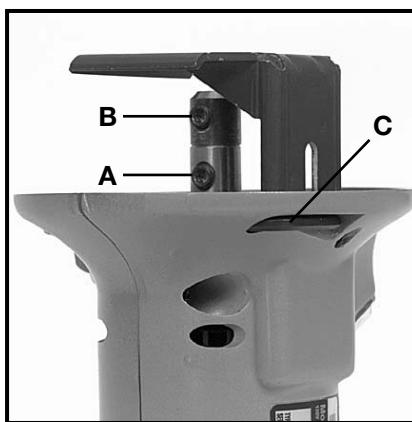

Fig. 2
The Model 7499 Cutout Tool is designed to accept cutout bits with either .115", 1/8" or 1/4" diameter shanks. Bits with 1/4" shanks are inserted directly into the spindle shaft of the Cutout Tool and are retained by screw (A) Fig. 2. A special chuck (#43224, supplied with the 7499), is used to install bits with either .115" or 1/8" shanks. The special chuck is inserted directly into the spindle shaft of the Cutout Tool and is retained by screw (A) Fig. 2. The bit shank is inserted into the special chuck and is retained by screw (B) Fig. 2.
A hex wrench (C) Fig. 2, is stored in the Cutout Tool housing. This wrench is used to tighten (and loosen), the bit retaining screws. Use your thumbnail to rotate the hex wrench clockwise; away from the tool housing. Grasp the wrench and pull it from its storage pocket.